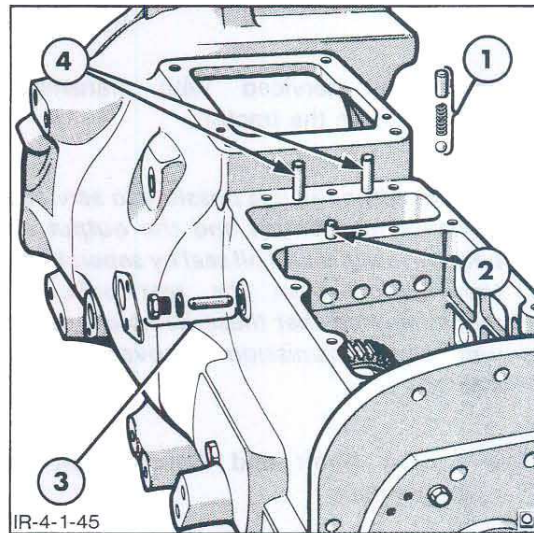

Figure 46
3. Remove the detents, springs and balls from the bores in the top of the transmission case, Figure 46. If the balls will not lift out with a magnet, the balls may be removed after the shift rails have been removed from the transmission case.
8. Remove the interlock detent plug from the left-hand side of the transmission case and extract the interlock detent, Figure 46, which is positioned between the 1st/2nd and 3rd/4th gearshift rails.